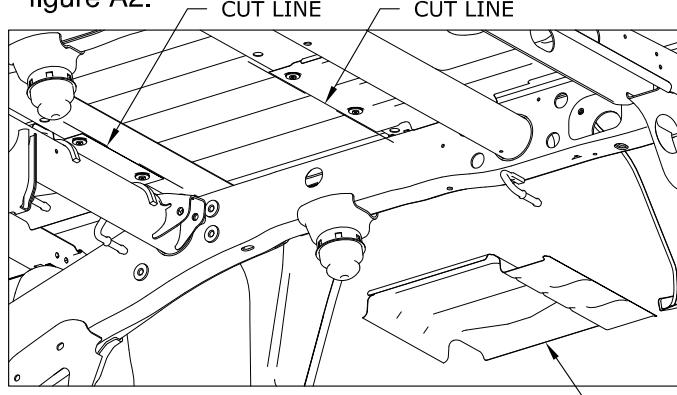

FIGURE A2: View Under Bed Looking at Heat Shield Removal Area
**5. Modify heat shield.** Cut out the section of the heat shield directly over the exhaust between the two bed cross members that are above the rear axle, see figure A2.